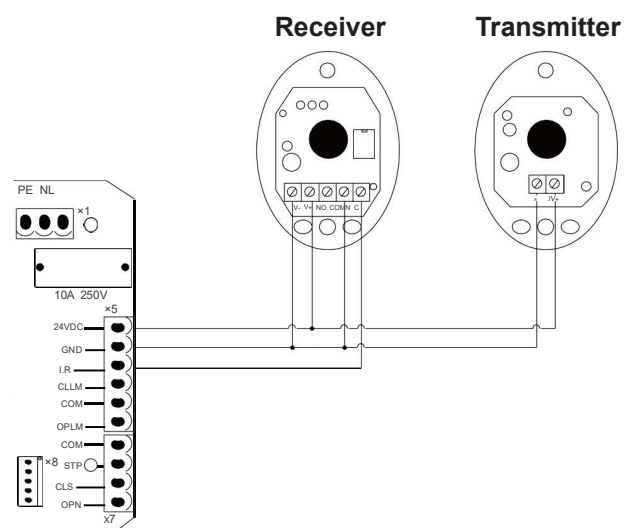

Figure 23
2. Connect the sensors' wiring to the control board according to Figure 23. The sensors' **V+** pins should be connected to the **24V** pin on the board; their **V-** pins and the receiver's **COM** pin should all be connected to the **GND** pin; and the receiver's **NC** pin should be connected to the **IR** pin.
3. Install the infrared sensor set (Z) near your gate at the positions prepared for them. If possible, cover or otherwise protect them from direct sunlight.